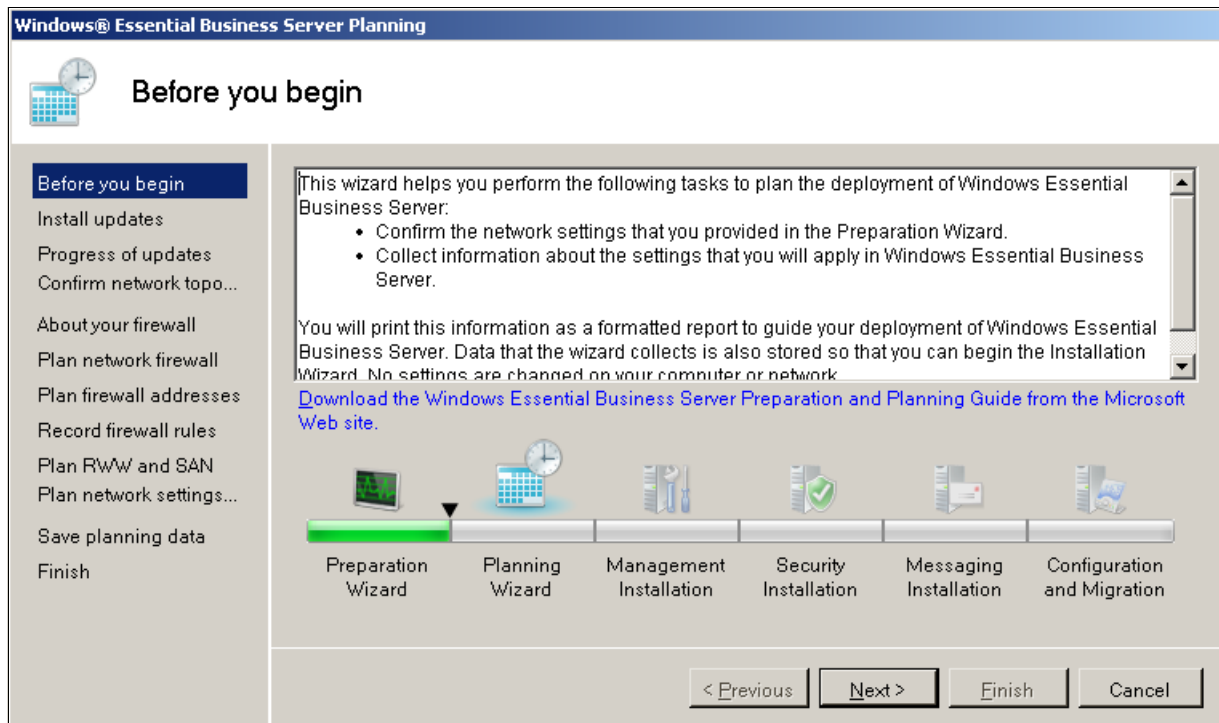

Figure 3-8 Starting the Planning Wizard
- Click **Close** on the “Finish” panel (Figure 3-8 on page 74).
1. Double-click the **Planning Wizard** icon on your desktop. The “Before you begin” panel (Figure 3-8) displays. Click **Next**.